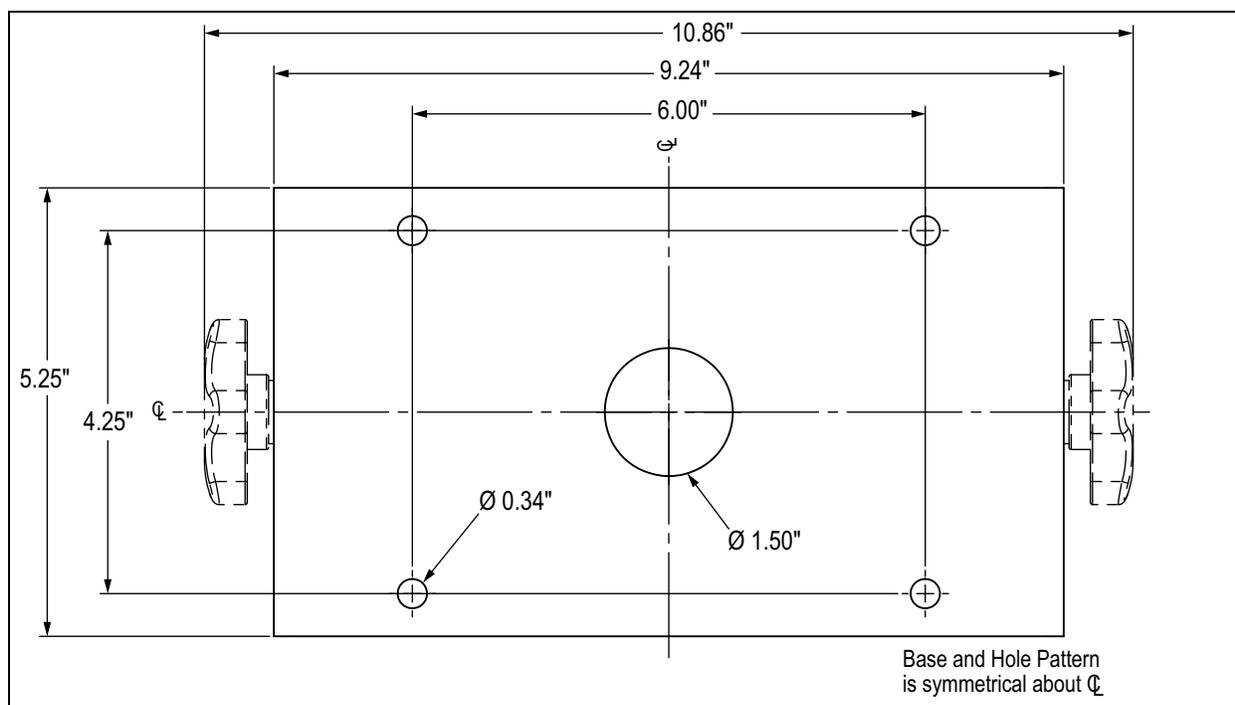

Figure 2-5. Universal Tilt Stand Hole Pattern Dimensions
1. Using the tilt stand as a template, mark the screw locations. See Figure 2-5 on page 5 for dimensions.
This illustration is not to scale and is for illustration purposes only. Use the dimensions to mark the holes for the universal mount, or use the bottom of the tilt stand as a template. Do not use Figure 2-5 as a template.